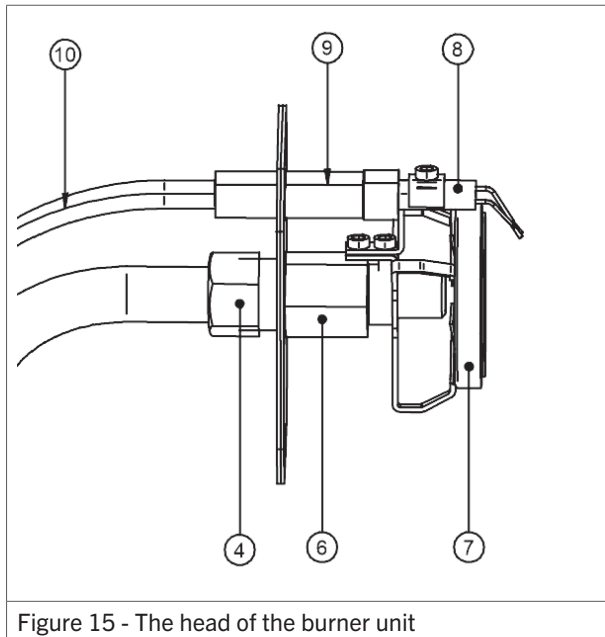

Figure 15 - The head of the burner unit
To change the gas type of the heater, the gas injector has to be changed (figure 15 - 6).
2. Remove the gas pipe by unscrewing the compression fitting (figure 15 - 4).
3. Remove the two connecting boots (figure 15 - 9) from the ignition electrode by gently pulling at the cables.
- a. Remove the stabilizer (figure 15 - 7) from the injector (figure 15 - 6).